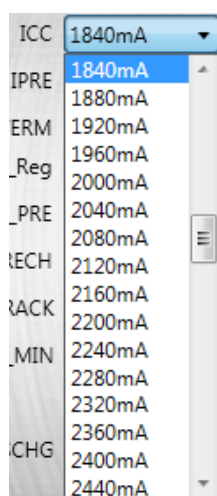

Figure 8: Constant Charge Current Setting
- Set the constant charge current (see Figure 8). Its range is 320mA to 4520mA, and the default charge current is set at 1840mA. The real charge current is limited as the input current limit setting.